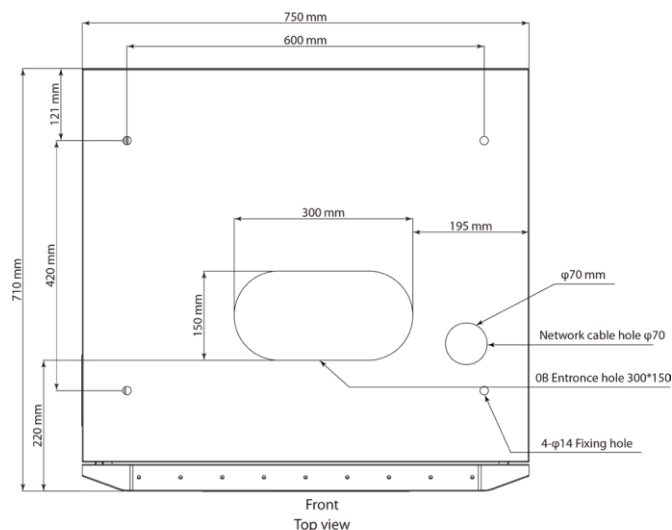

Figure 5.3.1
- When preparing the concrete base and cabling pay regard to positions of cable through holes and expansion bolts, which was dimensioned in Figure 5.3.1.